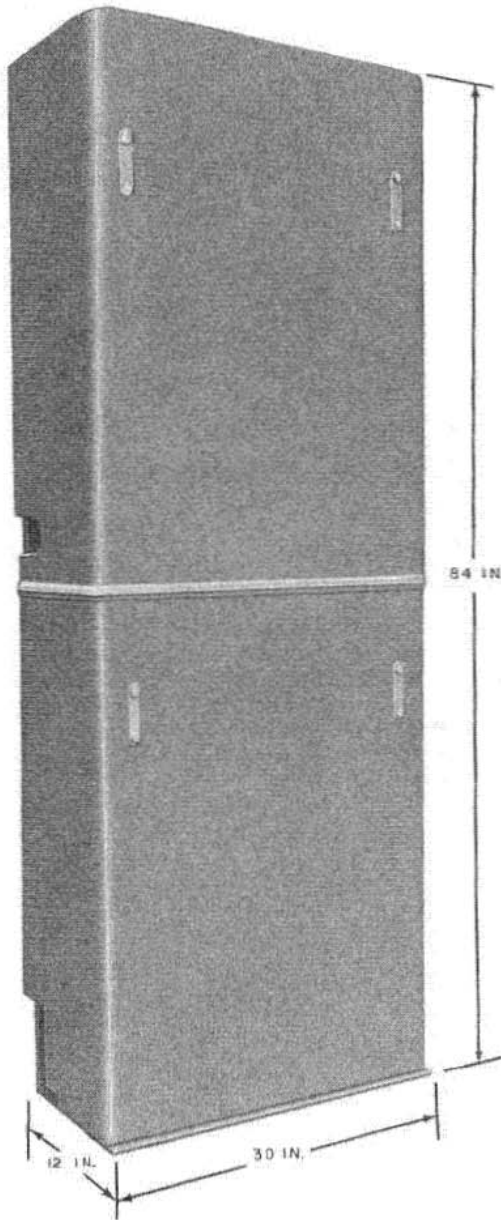

Fig. 40—Cover per ED-69463-50, Group 6 (A&M Only)
8.07 The cover per ED-69463-50, Group 6 (A&M Only) shown in Fig. 40 is a matted fiberglass cover designed to enclose one ED-69463-50 Group 1 (MD) wall relay rack. The cover is shown as it appears when assembled. It is shipped as a flat panel with top, center, and bottom panels, and must be formed on the job.